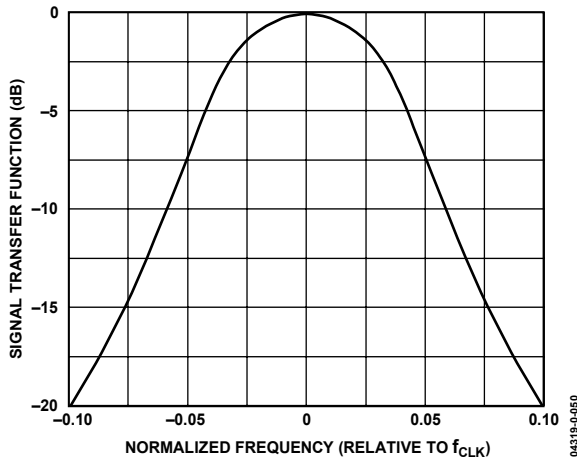

Figure 50. Magnitude of the Signal Transfer Function of the ADC near  $f_{CLK}/8$
Figure 50 shows the nominal signal transfer function magnitude for frequencies near the  $f_{CLK}/8$  pass band. The width of the pass band determines the transfer function droop, but even at the lowest oversampling ratio (48) where the pass band edges are at  $\pm f_{CLK}/192$  ( $\pm 0.005 f_{CLK}$ ), the gain variation is less than 0.5 dB. Also consider the amount of attenuation offered by the signal transfer function near  $f_{CLK}/8$  when determining the narrow-band IF filtering requirements preceding the AD9864.